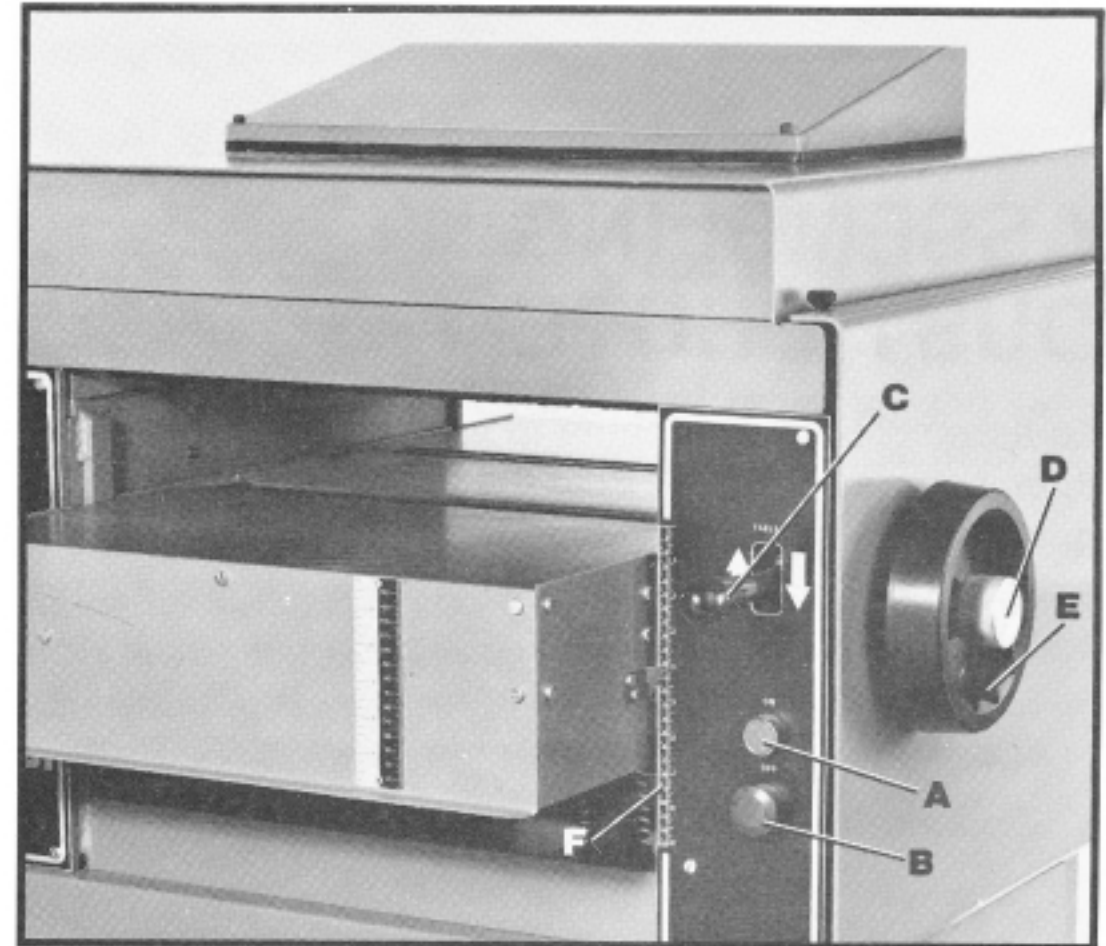
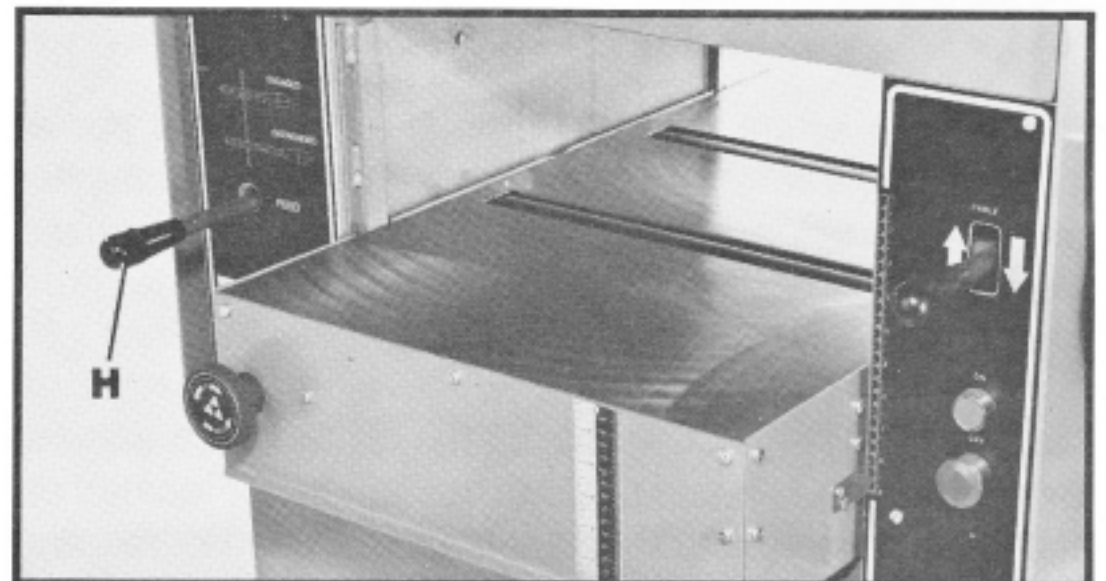

Fig. 10
Fig. 11
The machine is started by pressing the green (shrouded) "ON" button (A) Fig. 10. To stop the machine, push red (mushroom type) "OFF" button (B).
For fast and easy changes in thickness settings to accommodate thick or thin stock, the table can be rapidly raised or lowered by pulling up or pushing down on table raising and lowering control lever (C) Fig. 10. **NOTE:** The machine must be turned "ON" and feed roll lever (H) Fig. 11, engaged when doing this.
Fine adjustment to the table height can be accomplished by loosening lock knob (D) Fig. 10, and turning table raising and lowering handwheel (E). Tighten lock knob (D) after table height adjustment is made. The English/Metric scale (F) Fig. 10, indicates the table height setting.